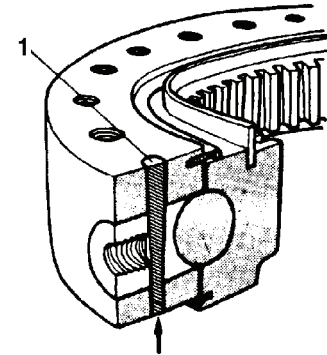

Figure 3
1. Remove tip of tapered pin (1, Figure 3) using grinder and tap lightly to remove debris.